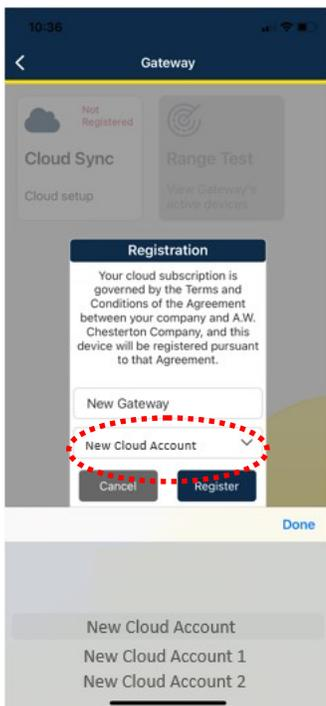

Figure 28
- Choose your cloud account from the drop down menu (See figure 28).